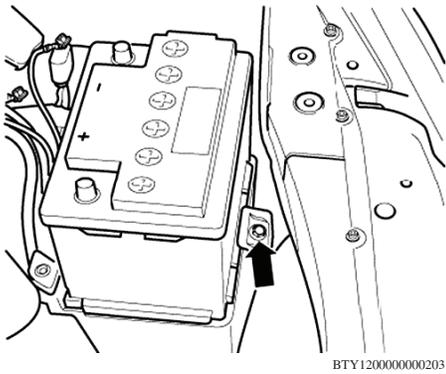

Fig. 2 Battery removal
12. Remove battery mounting bolt (arrow), **Fig. 2**.
4. Install battery mounting bolt (arrow), and **torque** to 16 ft. lbs., **Fig. 2**.